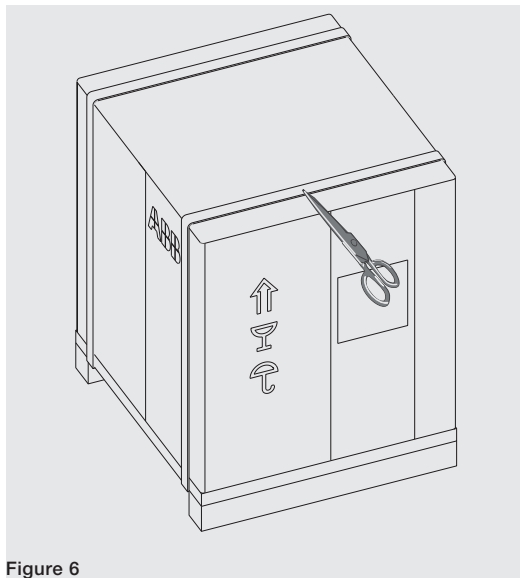
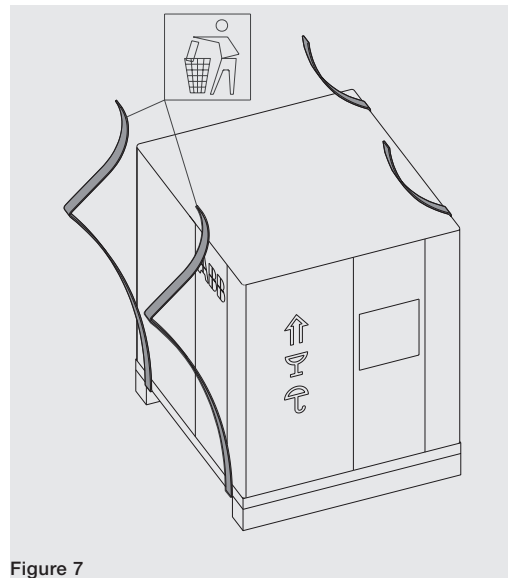

Figure 6
Figure 7
1. Cut the bands that wrap the packing box. See Figure 6 e Figure 7.